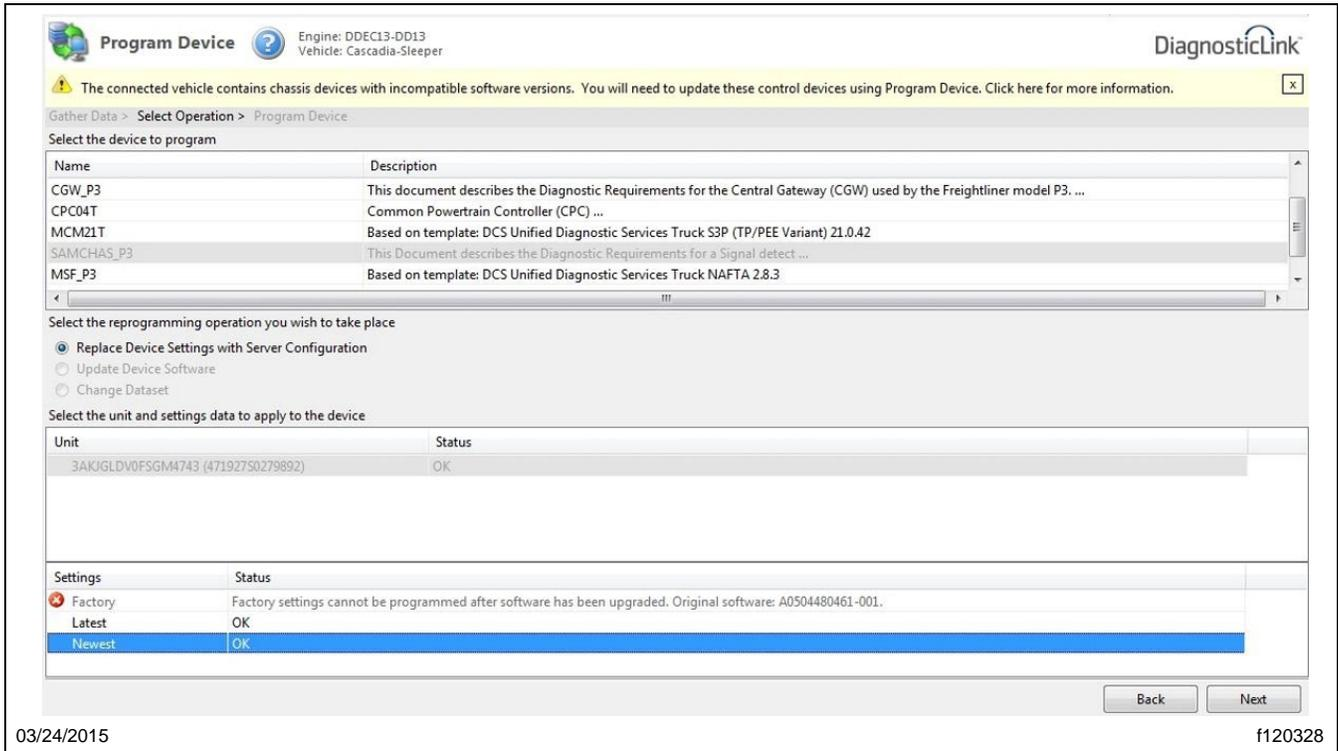

Fig. 8, Select Operation Page
1. Click **Next** to display the "Select Operation" page in the Program Device window. See **Fig. 8**.